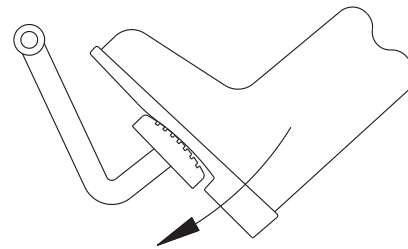

FIGURE 4
*All vehicles currently using automotive brake fluid (DOT 3, 4, 5 or 5.1) in the brake system must use the 691 model numbers designated (SF).*
3. Check brake pedal height and feel. With the vehicle running, push on the brake pedal until there is no more forward movement. Measure and record the distance from pedal to floor. Brake pedal height and "feel" will be the same after the 691 System is installed, refer to Figure 4.